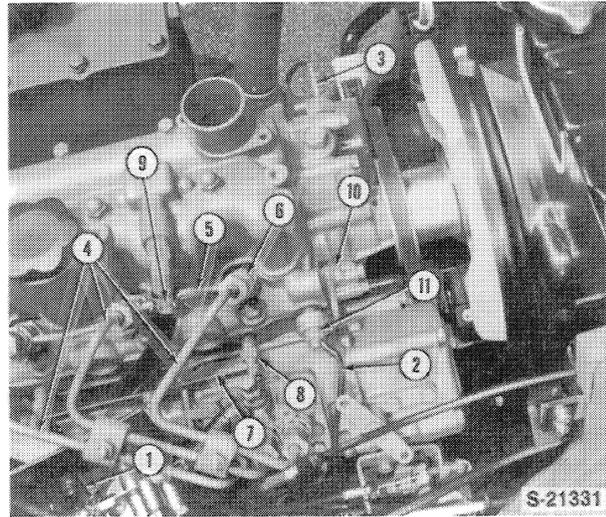
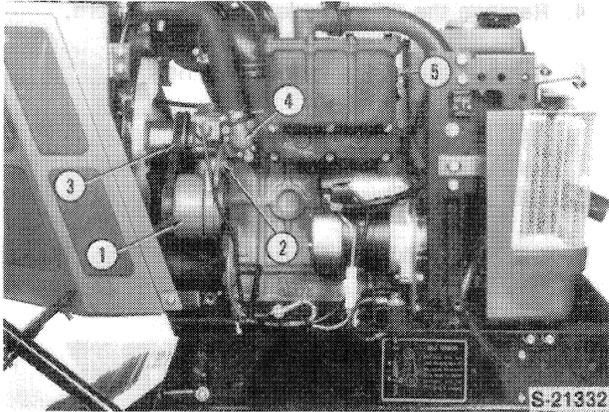

Figure 22
Figure 23
2. Disconnect the glow plug terminal wire (1), Figure 22.
3. Disconnect the engine oil pressure sensor wire (2), Figure 22.
4. Disconnect the coolant temperature sensor wire (3) from the temperature sensor, Figure 22.
5. Remove the injector lines (4) and cap all openings.
6. Remove the vapor vent tube (9).
7. Remove the external oil tube banjo bolt (10) from the front of the head.
8. Loosen the alternator bracket bolt (2), Figure 23. Then remove the belt from the alternator and fan pulley.
10. Remove the muffler/exhaust manifold assembly (5), Figure 23.